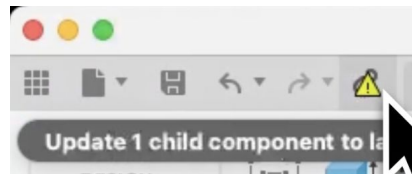

Figure 1.1
- Back in the main assembly file, the first thing you'll notice is none of those changes came though. You'll see a '**warning icon**' in the upper left corner indicating that a linked component is out of date (see Figure 1.1).